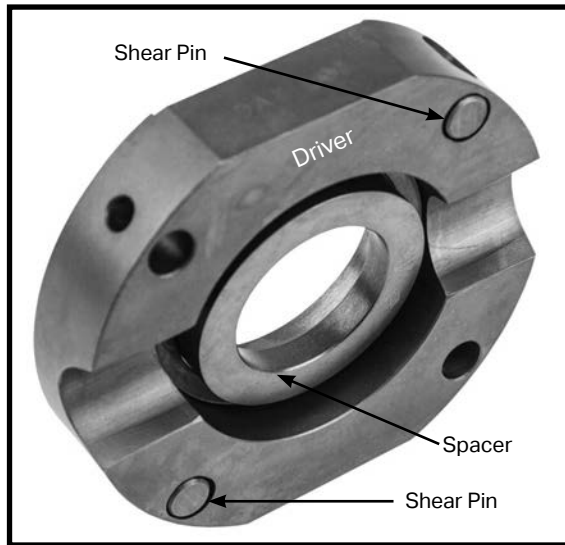

Figure 2: For each Driver, install spacer and also place shear pins into windowed (slotted) holes
2. Place a shear pin into each windowed (slotted) hole. It should be about flush. (**Figure 2**).
3. Place a spacer into the center of each driver, wide end toward the teeth if not symmetrical. (**Figure 2**).